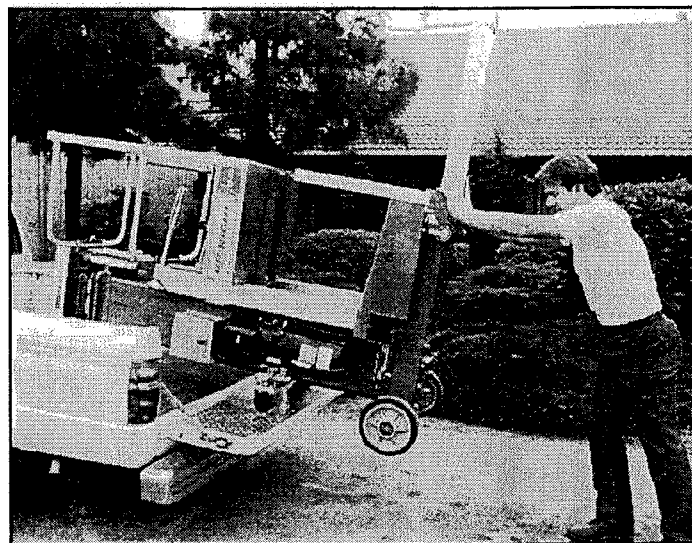

Figure 3-6: Pushing machine into transport position
6. Push the base of the unit towards the front of the vehicle bed, Figure 3-6. The machine will slide on the loader until the rear wheels contact the vehicle bed. The unit may then be rolled on the rear wheels and the casters located near the top of the unit.